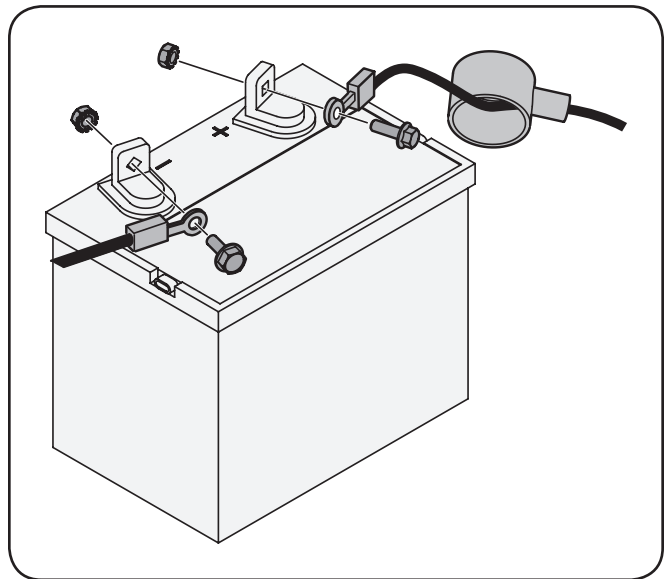

Figure 3-10
2. Remove the plastic cover, if present, from the positive battery terminal and attach the red cable to the positive battery terminal (+) with the bolt and hex nut. See Fig. 3-10.
3. Remove the plastic cover, if present, from the negative battery terminal and attach the black cable to the negative battery terminal (-) with the bolt and hex nut. See Fig. 3-10.